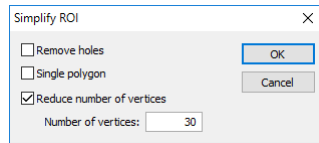

Figure 242 – Simplify ROI dialog
2. Click the **Simplify...** button. The **Simplify ROI** dialog is then displayed (see Figure 242).